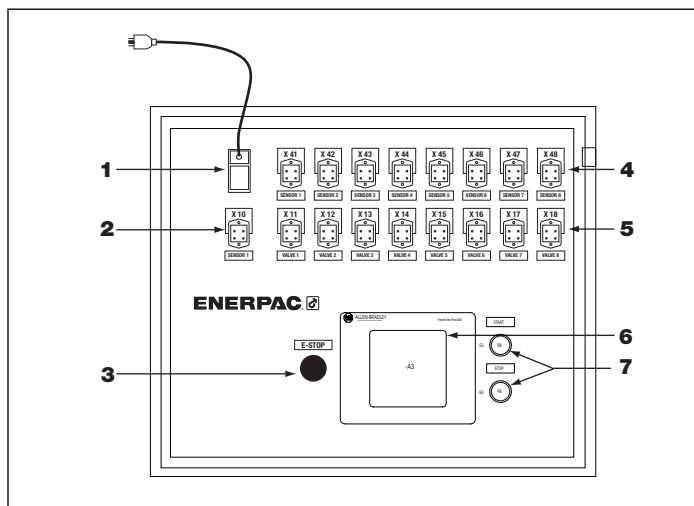

Figure 2, Control Panel (CONTROLLER)
3. Connect the power cord to the CONTROLLER. The power cord plugs into the three-pin plug on the face of the CONTROLLER (Figure 2).